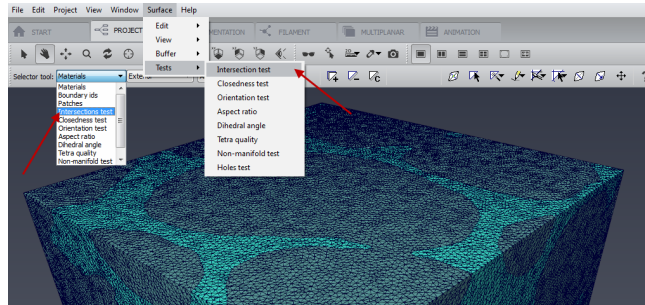

Figure 7.19: *Surface Editor* intersection testing submenu.
- Open the *Surface* menu and in the *Tests* submenu, select *Intersection test*. You can alternatively pick the *Intersection test* in *Selector tool* of the tool bar (see Figure 7.19).